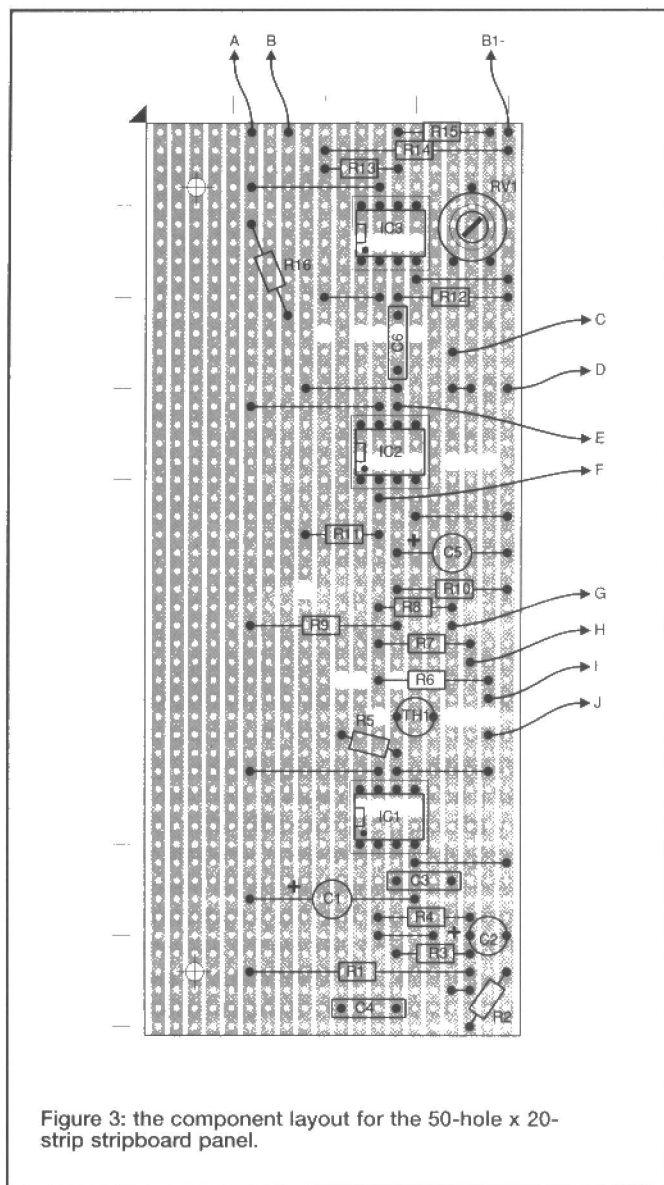
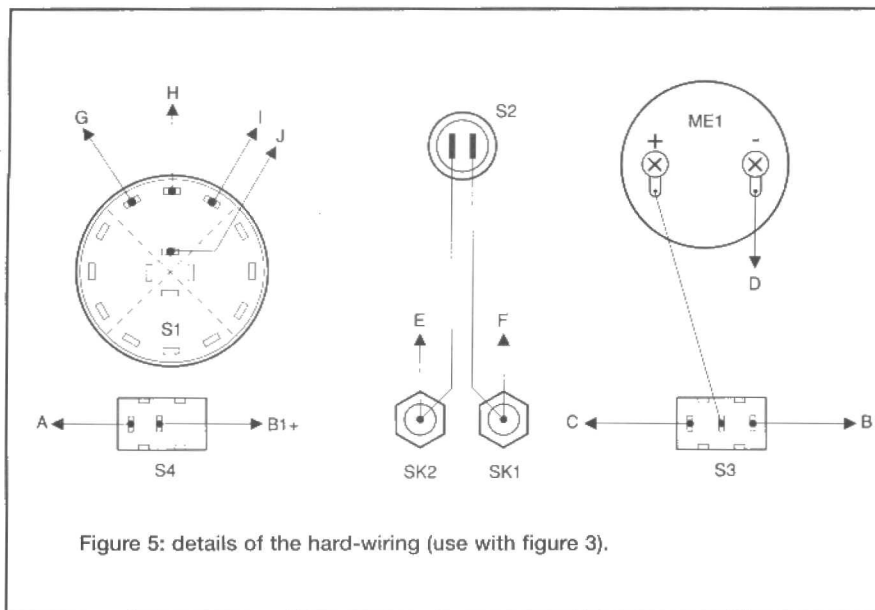

Figure 3: the component layout for the 50-hole x 20-strip stripboard panel.
Figure 5: details of the hard-wiring (use with figure 3).
This circuit is simple enough for stripboard construction, and a suitable layout is provided in **figures 3 and 4**. These respectively show the component and copper side views of the
Details of the hard wiring are provided in **figure 5**, which should be used in conjunction with figure 3 (for example, point "A" in **figure 3** connects to point "A" in figure 5). This wiring is straightforward and should not present any problems. S1 is a standard three-way four-pole rotary switch, but in this circuit only one pole is used and 12 of its tags are left unconnected. The battery pack consists of eight HP7 (AA) size cells fitted in a plastic holder. There is just about enough space for the batteries inside the case, but the holder will probably have to be fixed to the rear panel or top of the case using double-sided adhesive pads. Do not simply leave the battery pack rattling around inside the case, as it would probably damage thermistor TH1. Connections to the battery holder are via an ordinary PP3 size battery clip.